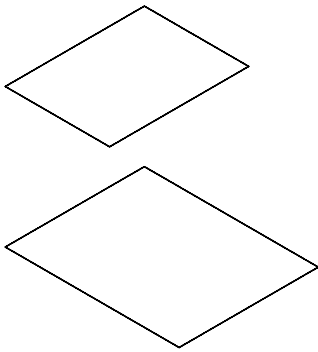

Figure 24-22 3D view of the objects
4. When you open a new drawing, by default you view the model from the top view. Therefore, when viewing from the top, the three edges of the top side overlap with the corresponding bottom edges. Hence, you will not be able to see all edges. However, you can change the viewpoint to clearly view the model in 3D. Choose **View > Views > SE Isometric** from the **Ribbon** to proceed to the SE isometric view. Now, you can see the 3D view of the objects, see Figure 24-22.